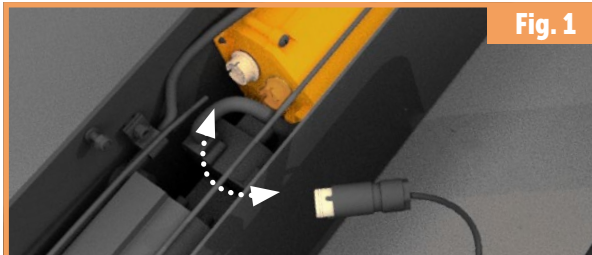

Fig. 1
**Pull out the fuse and insert a new one (15 A blade fuse).** To return the power unit back to the MOOVER, follow the procedure in reverse order from Figure 7 to Figure 1.